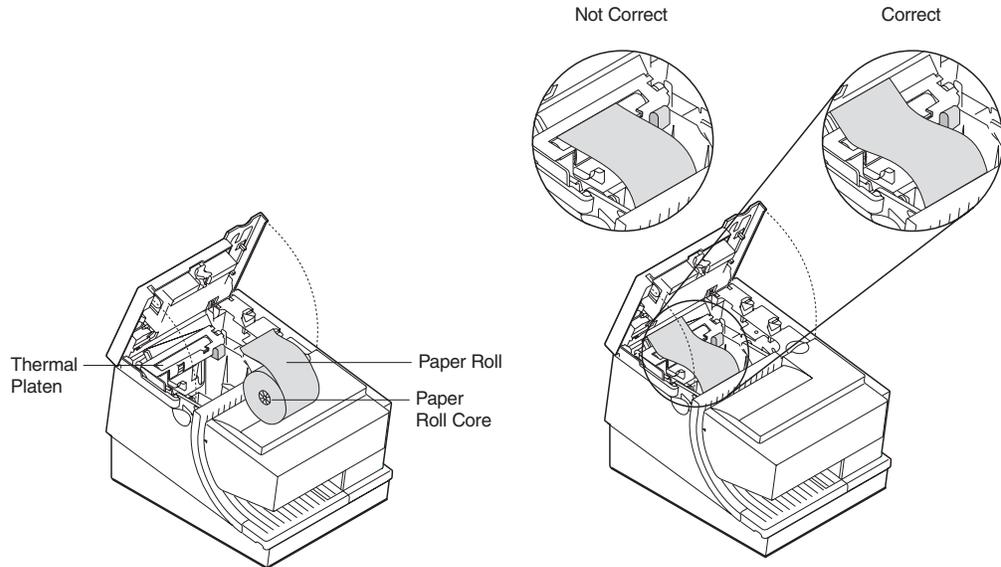

Figure 24. Paper Loading Path --: Models T15 and TG5
3. See Figure 24 on page 52 and place the paper roll into the paper roll bucket as shown. The leading edge of the paper should come from the direction of the front of the printer and go across the top of the roll as shown in the diagram. If it feeds from the bottom of the roll, nothing will be printed on the paper.
4. Place the leading edge of the paper over the metal guide. See Figure 24.